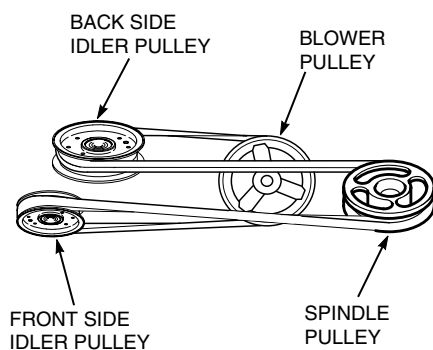

FIGURE 3-5
10. Install the belt to the spindle pulley. When replacing the belt, see Figure 3-5 below.